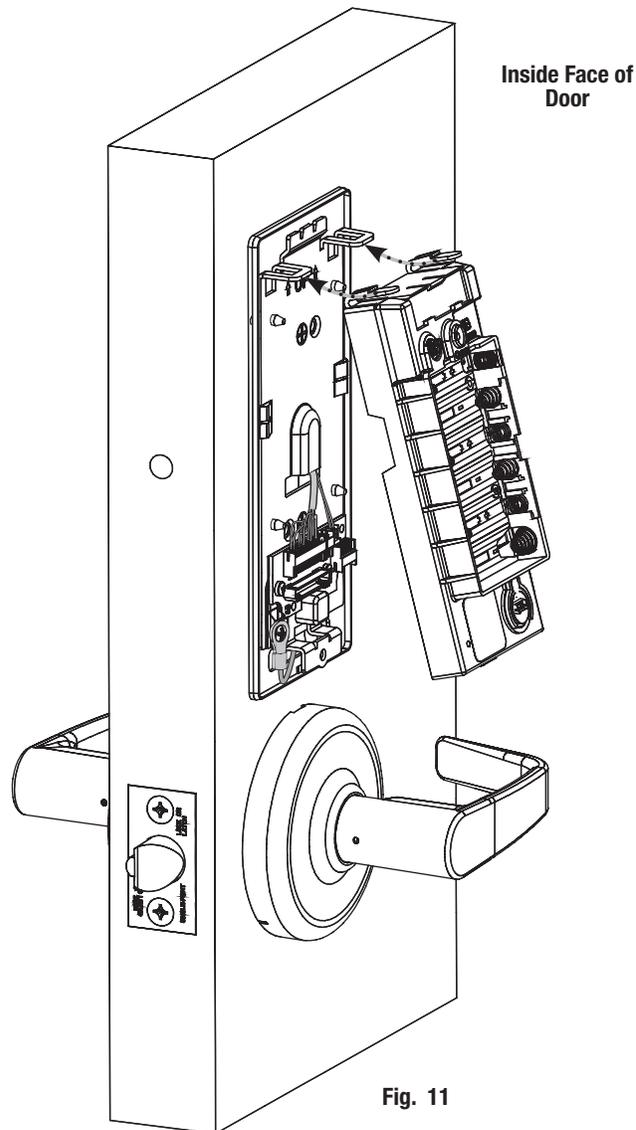

Fig. 11
- a. Insert top tabs of controller into slots on mounting plate (Fig. 11).